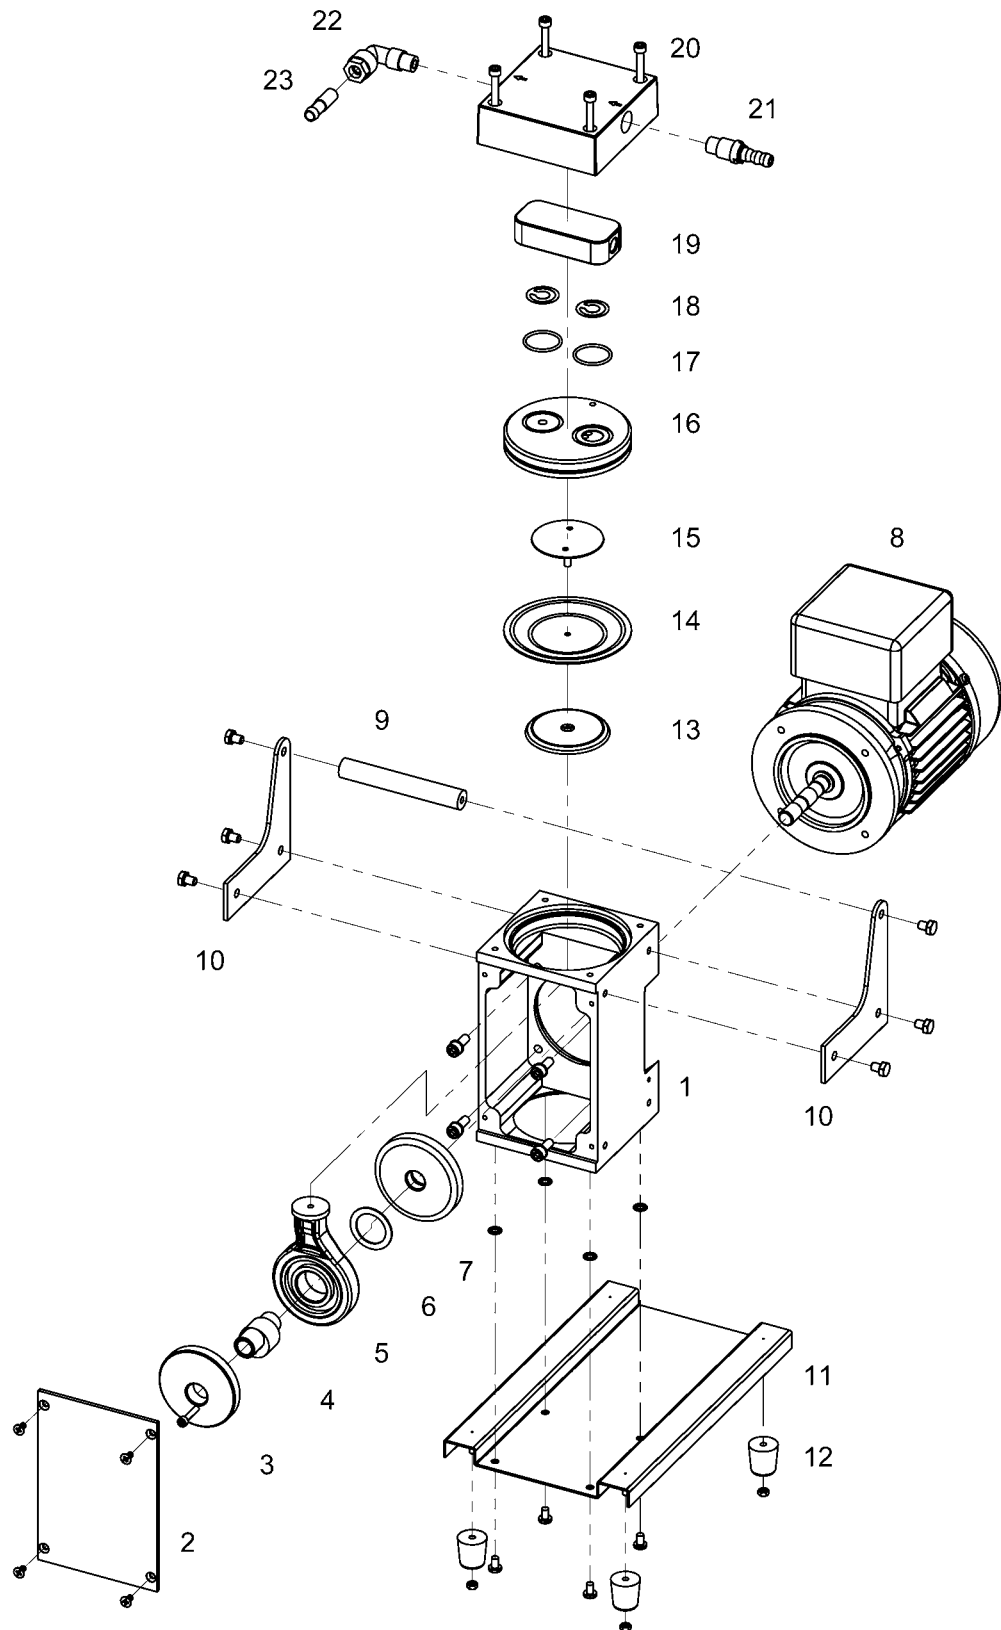

Fig. 5 Exploded view MPC 301 E
1. Use the size 3 pin-type face wrench to tighten the pressure disc (8), the diaphragm (7) and the strain washer (6) with the correct torque of 2 - 4 Nm.
2. Bring the connecting rod (see fig. 5) and the diaphragm (7) into the central position.
3. Replace the pump head (5).
4. Insert the valves (3) and the o-rings (4).